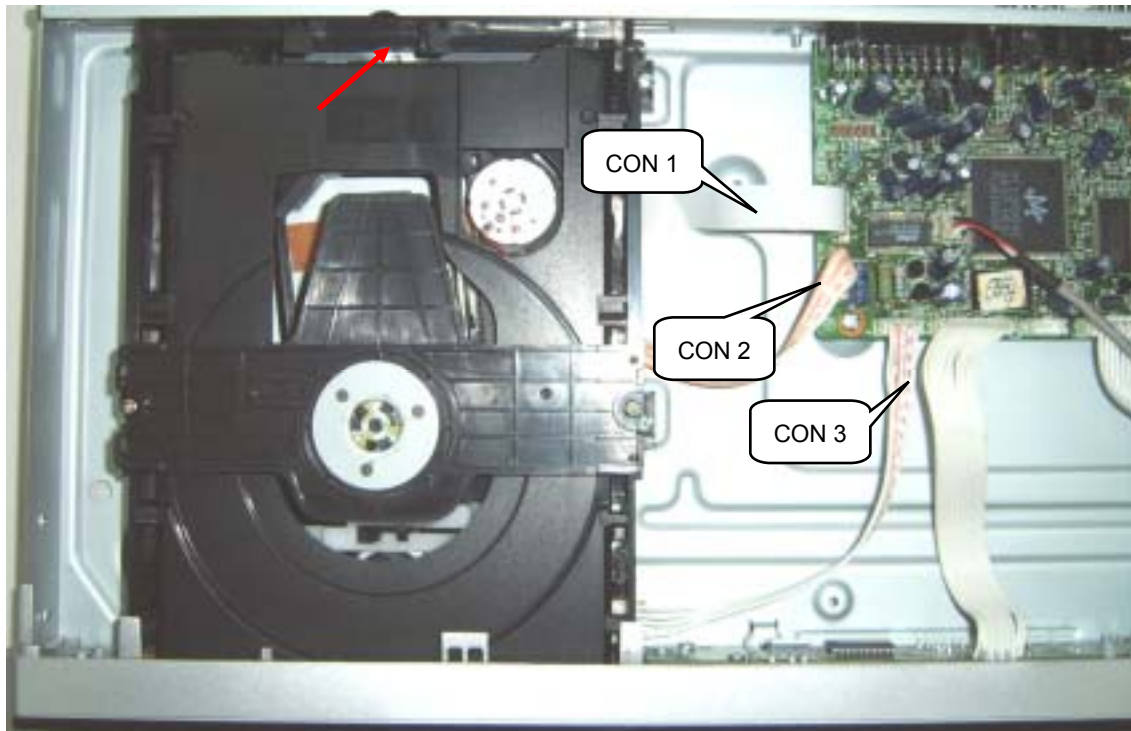

Figure 4
Step4: Dismantling Loader, disconnect the 3 connectors aiming in the below figure, and remove 1 screw around the Loader. (Figure 4)